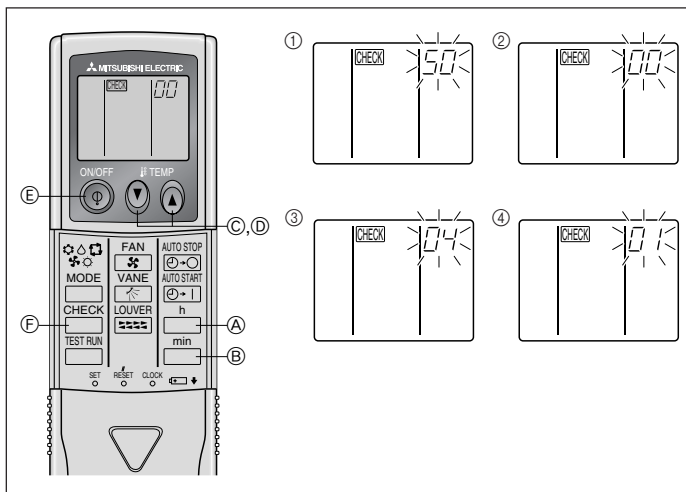

Fig. 6-5
6.3. Function Settings (Fig. 6-5)